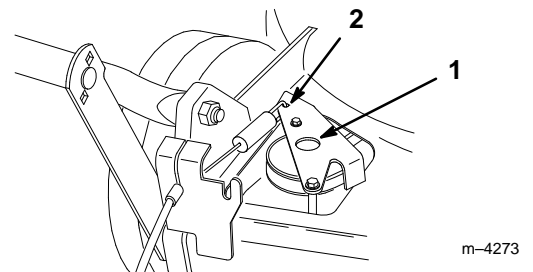

Figure 21
- Push the drive bracket down until it contacts the mower, then hold it in place (Fig. 21).